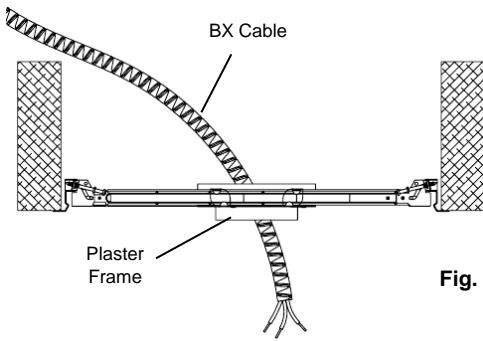

Fig. 9
3. Run armored cable (BX) or non-metallic (NM) cable (also known as Romex) from your circuit breaker or fuse panel to the plaster frame hole, providing 6" (15.3 cm) to 8" (20.3 cm) of slack extending below the hole. Cable having up to 12 AWG wiring may be used. (Fig. 9) **(WARNING - Use cables having wires rated 90°C or more.)**